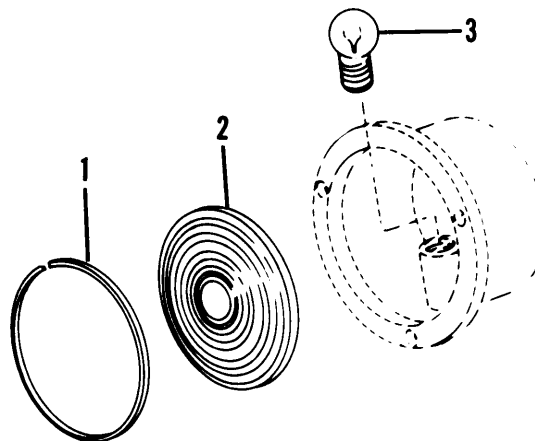

Figure 4-11. Taillight Assembly (M871 only)
- (1) Remove snap ring (1, fig. 4-11).
- (2) Remove lens (2).
- (3) Remove light bulb (3).
(1) Install light bulb (3, fig. 4-11).
(2) Install lens (2).
(3) Install snap ring (1).